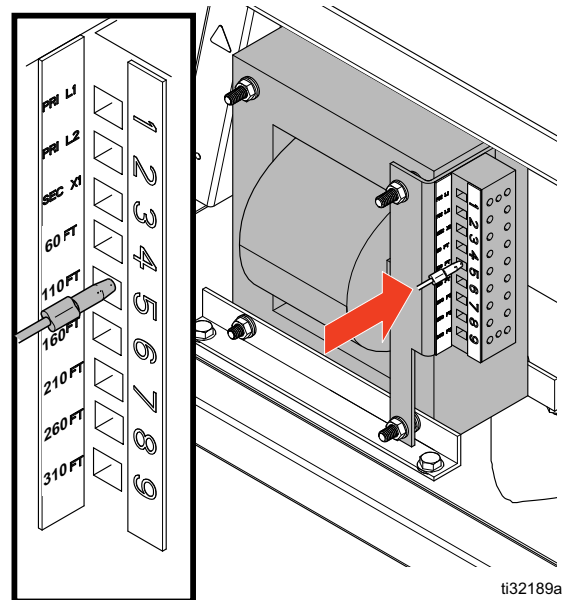

FIG. 14: Hose Transformer Wiring
3. Move the wire on the hose transformer (AC) to the terminal that matches the length of hose installed. Wire is factory-set to 60 ft. See FIG. 14.